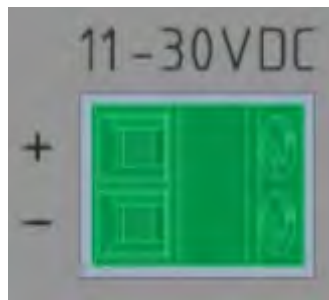

Figure 17: DC terminal block.
- On the Gateway side, the cable must first be inserted through the cable gland. The DC in is the terminal block shown as in Figure 17.